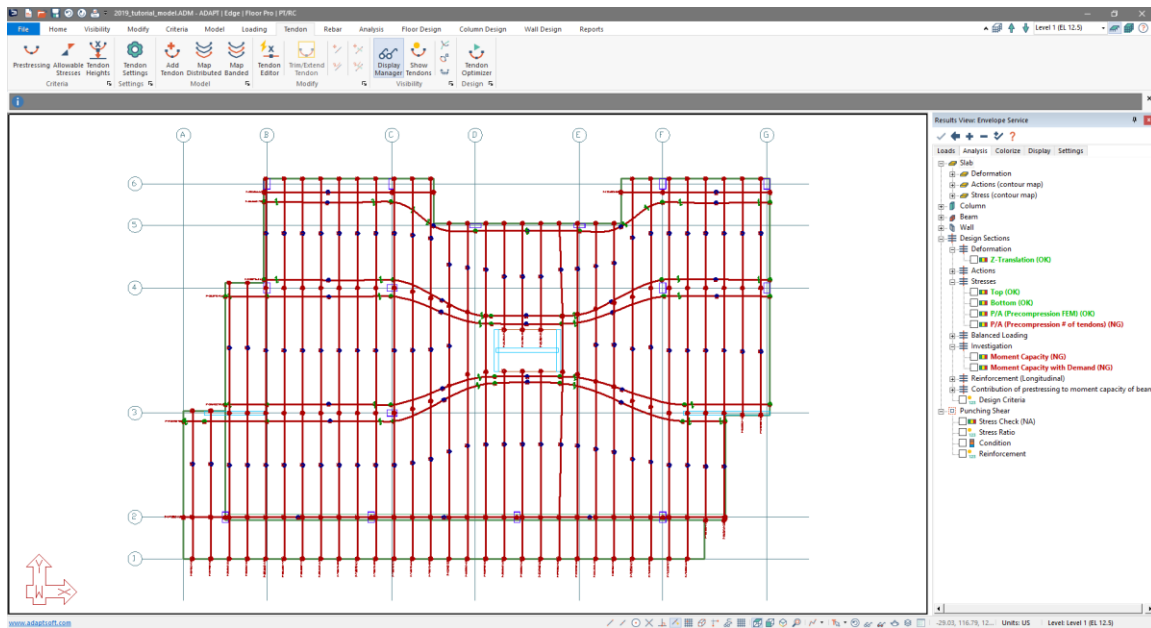

Figure 9-119
- Make the selections as shown in **FIGURE 9-118** and click the *OK* button. The users screen will appear as shown in **FIGURE 9-119**.